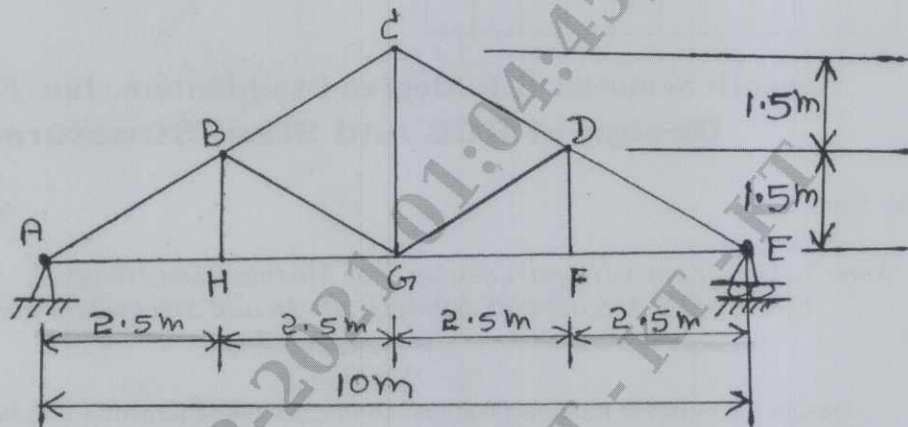

Fig.Q4
- 4 Design a steel roof truss with its geometry as shown in Fig.Q4. The analysed forces in the members due to dead load, live load and wind load are given in Table.Q4 for principal rafter, principal tie and for major sling member. Determine the maximum design forces due to load combinations as per IS-800 for the above mentioned members and design the same members with all the necessary checks including for reversal of stresses. Use 16 mm diameter bolt of grade 4.6 for the member end connections. Write a neat sketch of the design details describing all the parts. Steel section available is Fe-410 grade.